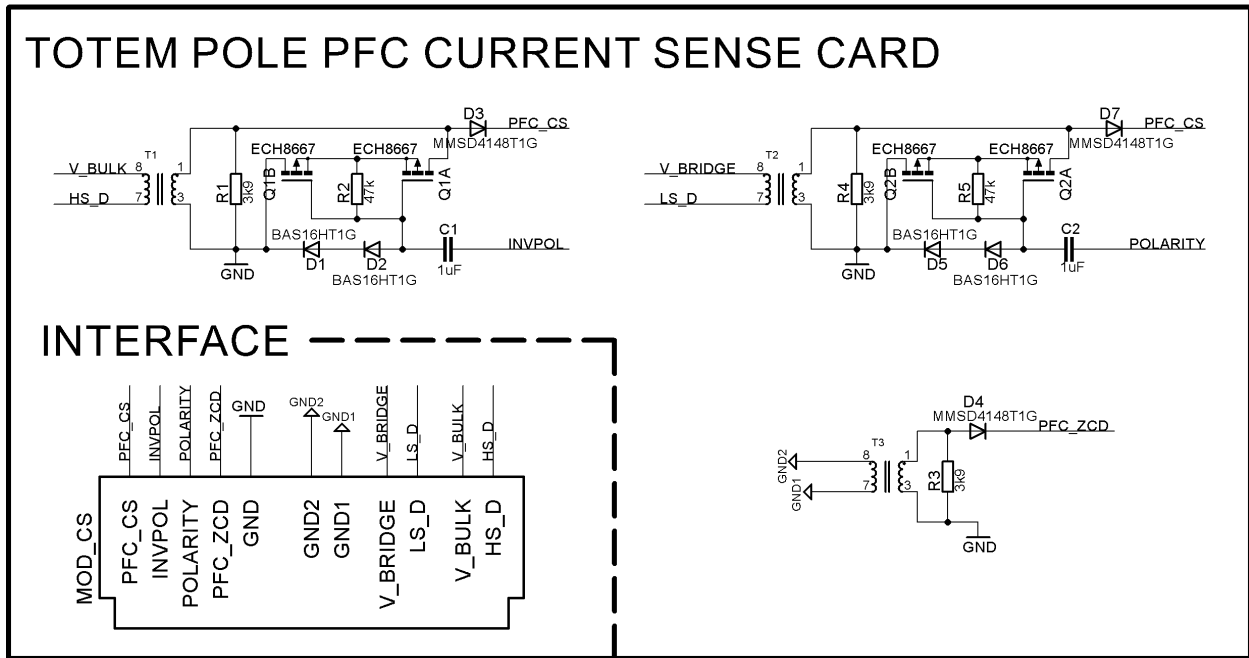
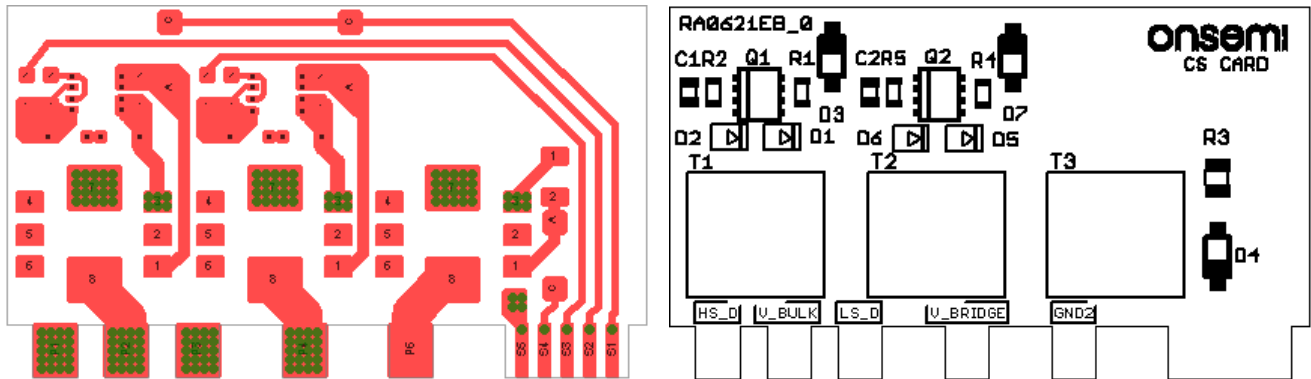

Figure 18. CURRENT SENSE CARD Schematic
Figure 19. Top Layer PCB Layout and Assembly Plan of CURRENT SENSE CARD
- CURRENT SENSE CARD – MOD_CS (Figure 18, Figure 19, Figure 20, Figure 21)
The CURRENT SENSE CARD is illustrated at several figures: schematic diagram in Figure 18, PCB layout and assembly plan in Figure 19, Figure 20 and photographs in Figure 21. The CURRENT SENSE CARD is a two-layer PCB based on 1.5 mm core width with 105 μ m outer copper